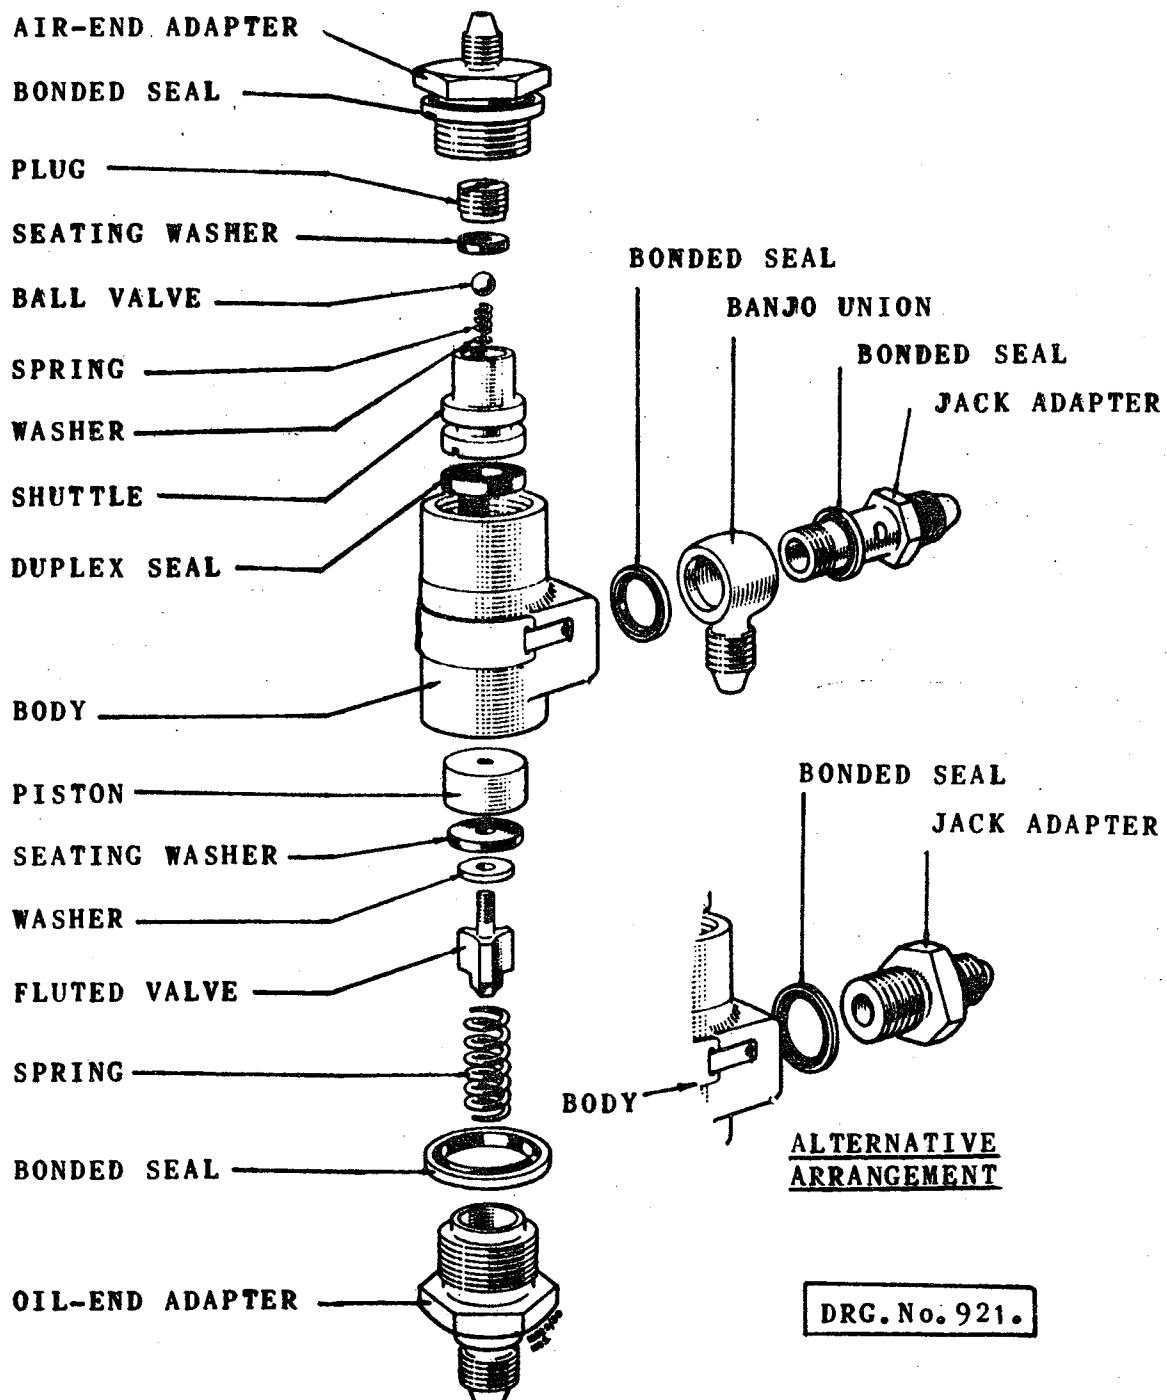

FIG 1
4.2	Spring.) Assemble on shuttle. (Fig 1).